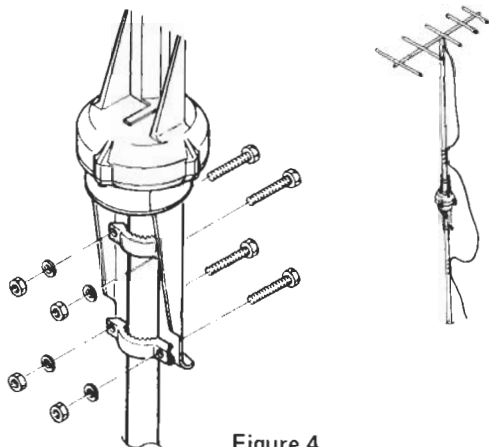

Figure 4
2. Set Drive unit bottom to pole end, and then securely fasten the Drive unit to the antenna pole by tightening 2 tooth clamps with M5 x 60 mm Hex bolts, spring washers and nuts. (Figure 4)